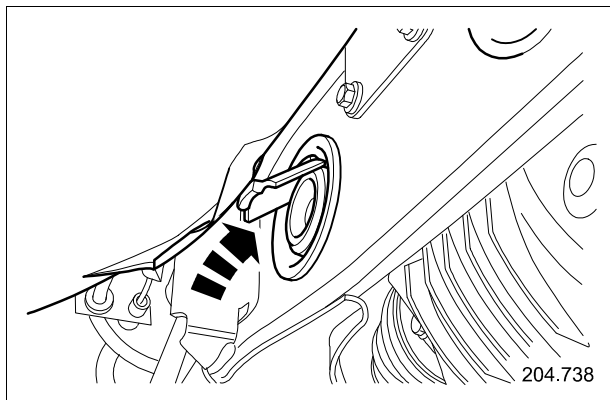

Fig. 2
- 5 Position insert to left bushing upper void (see Fig. 2).